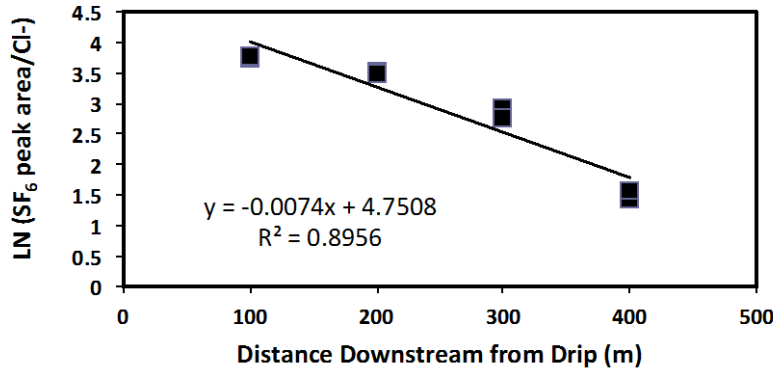

Figure 13. Example SF₆ loss rate data calculation.
- a. Plot the natural log (LN) of the RATIO of the tracer gas concentration (or GC peak area) to the background-corrected Cl concentration (Y-axis) by Stream Distance (X-axis) (Figure 13).